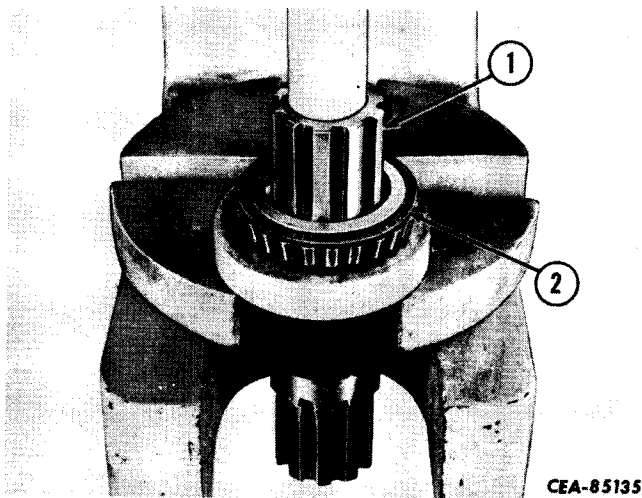

Figure 5-29
Press the shaft (1, Fig. 5-29) out of the bearing cone (2) as shown.